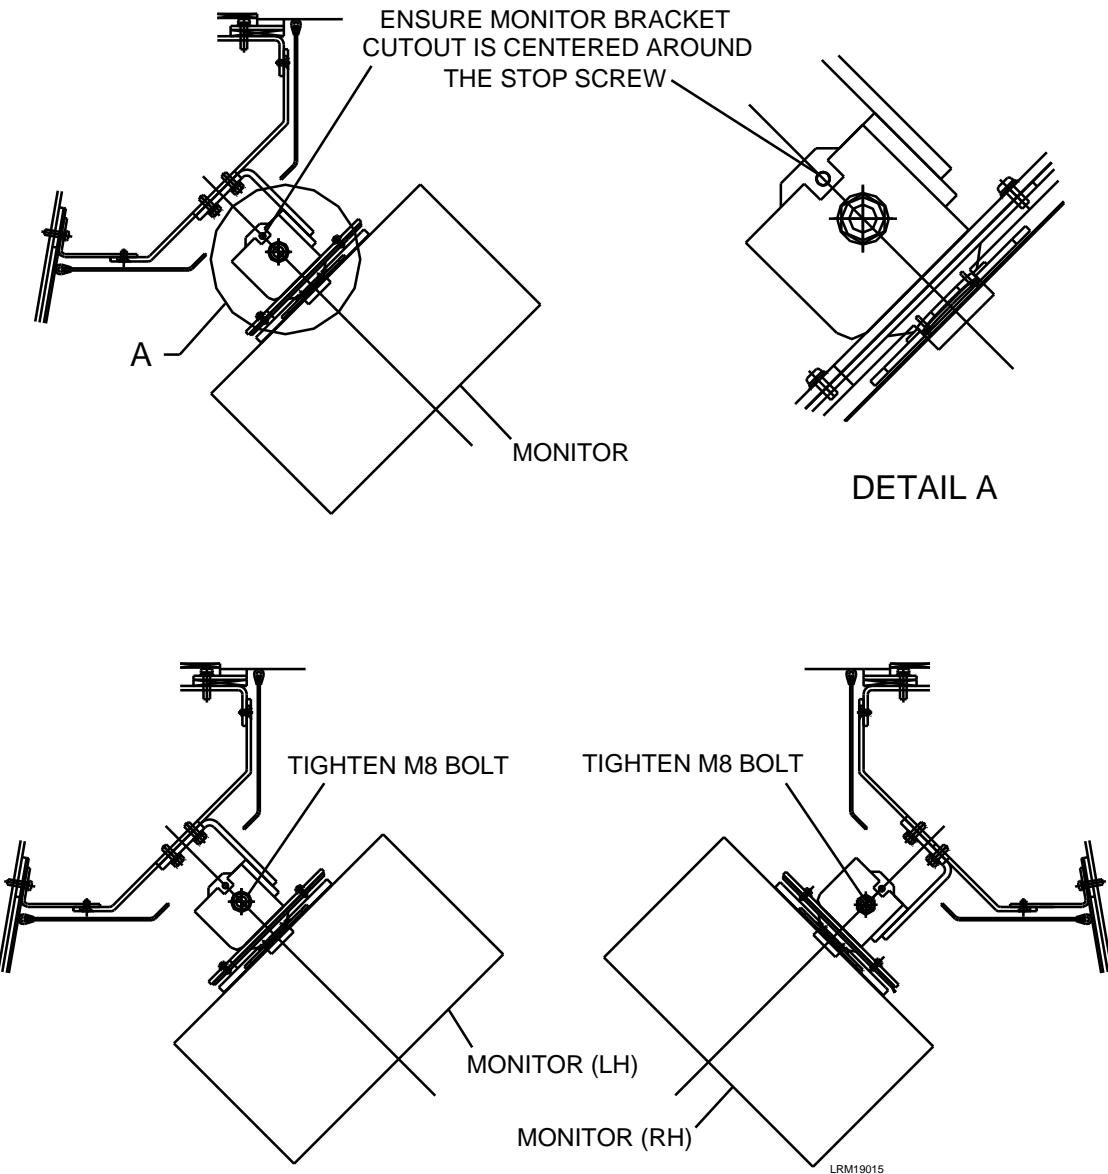

Figure 7-12: Adjustment of Rear View Monitor
2. Install the four M4 x 8 screws (7), M4 lock washers (8), and M4 plain washers (9) to secure the bracket assembly (3).
4. Carefully place the Rear View Monitor Assembly (1) onto the base plate (2) aligning the mounting holes.
5. Install the four M5 x 16 bolts (4), M5 lock washers (5), and M5 plain washers (6) to secure the Rear View Monitor Assembly (1).
6. Ensure that the Rear View Monitor is centered (not rotated one way or the other). The stop screw should be in the middle of the cutout on the mounting bracket. See Figure 7-12.